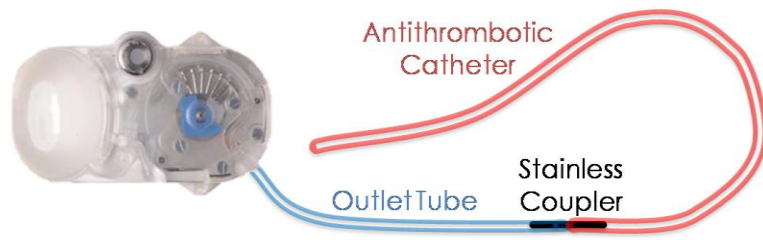

Fig.1 Connect the antithrombotic catheter
3. Catheter Attachment ⋯See Fig.1